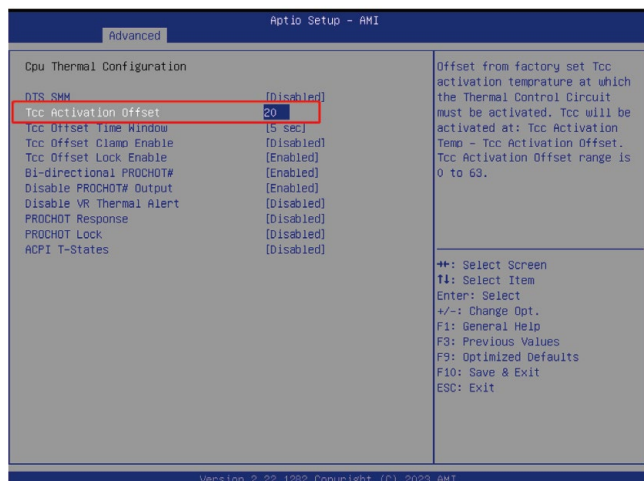

Figure 2-9-5
⑤ After entering, press the ↓ key to select Tcc Activation Offset, the default value is 20 (representing 100-20=80°), and the value is changed to 30 and the temperature limit is 70°. Keypad input numbers. Figure 2-9-5.